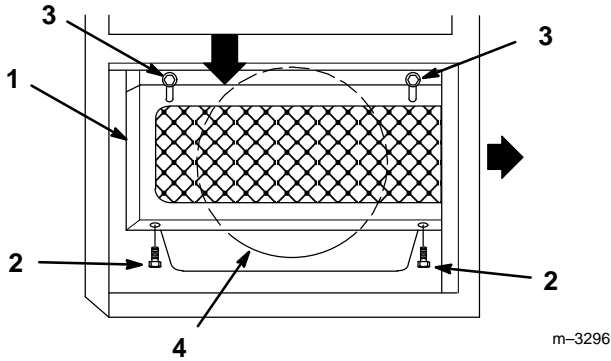

Figure 38
1. To remove cooling screen remove lower bolts and loosen top bolts. Slide screen down and rearward to expose oil cooler (Fig. 38). Save all mounting hardware.
3. Clean off engine air intake (Fig. 38).
4. Install screen from rear and raise over oil cooler. Secure with previously removed hardware (Fig. 38).